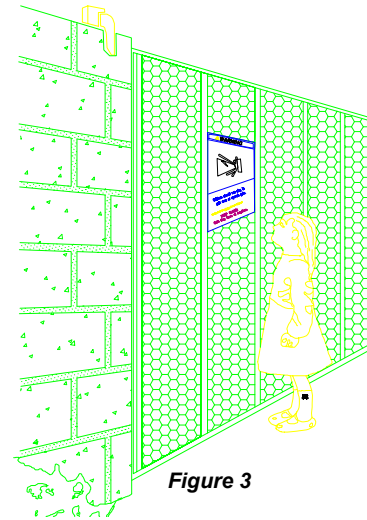

Figure 3
- For ORNAMENTAL "GRILL TYPE" GATES, injuries may occur when people put arms through the openings or children "ride" the gate by standing on the chain and holding on to the gate. THIS POTENTIAL HAZARD CAN BE MINIMIZED BY INSTALLING A MESH SCREEN ON THE GATE. See Figure 3.